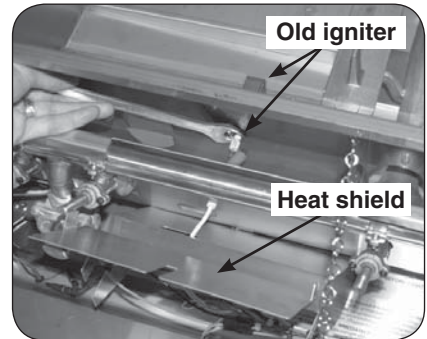
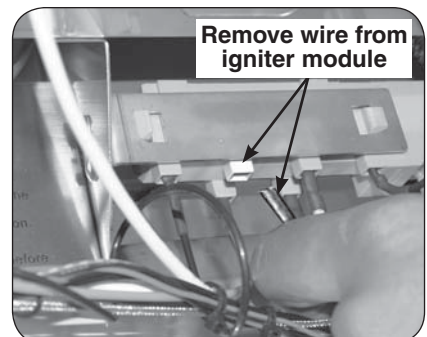

Fig. 2-4 Remove heat shield and old igniter
Fig. 2-5 Remove old igniter wire
- Lift the heat shield up and inward slightly to clear the diagonal slots hooked over the oven fire wall then pull away from the manifold (see Fig. 2-4).
- Remove the existing igniter wire by first sliding the rubber sleeve back off the igniter, then pulling the wire to detach from the igniter. Next remove the igniter nut on the control panel side of the fire wall with a  $\frac{9}{16}$ " open-end wrench (see Fig. 2-4) and remove the igniter box from inside the oven. Remove the rubber sleeve from the wire and pull the wire through the heat shield and the insulating tube in the manifold fire wall. Disconnect the other end of the igniter wire from the igniter module (see Fig. 2-5).
2. Attach the other end of the new igniter wire (the insulated end) to the previously used male connector on the back of the igniter module (reference Fig. 2-5).